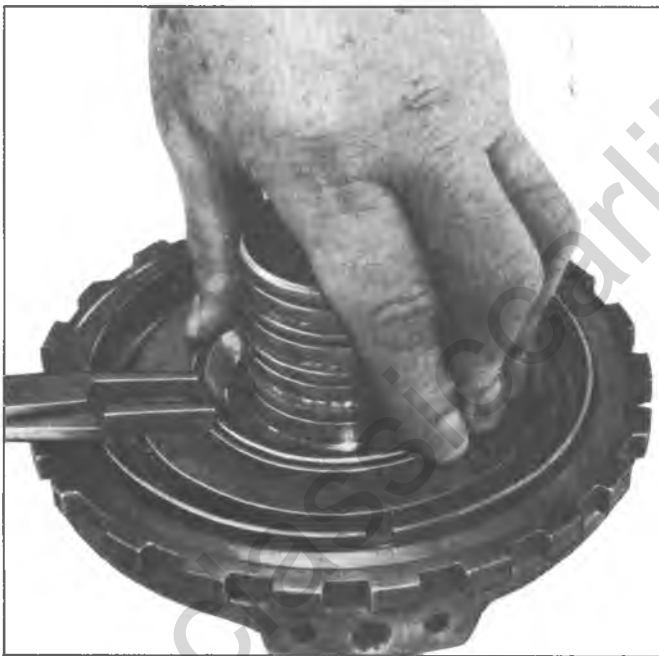

Fig. 103T—Installing Intermediate Clutch Piston Snap Ring
6. Compress springs and install snap ring (fig. 103T).